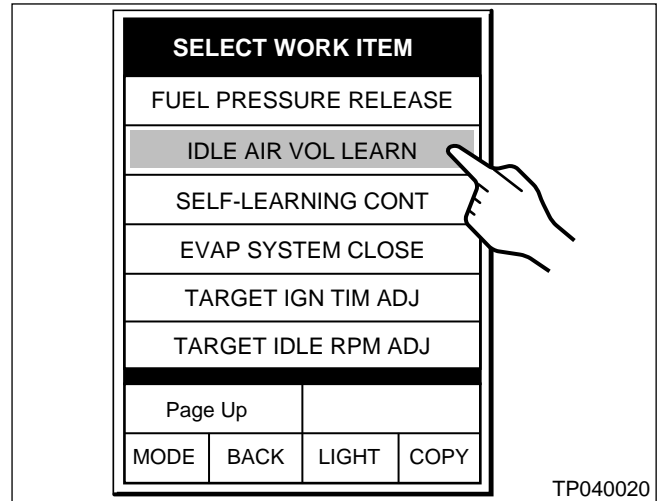

Figure 3
- c. In the **CONSULT WORK SUPPORT** mode, select **IDLE AIR VOL LEARN**. See Figure 3.